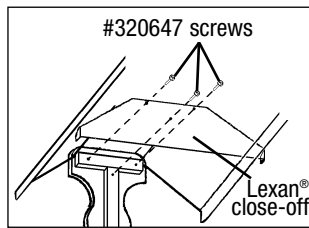

Figure 5
- On one end of table, place Lexan® close-off underneath Lexan® canopy. Align the three holes. Secure Lexan® close-off to the inner side of the tubing assembly and into oak side panel, using three #320647 screws – see *Figure 5*.